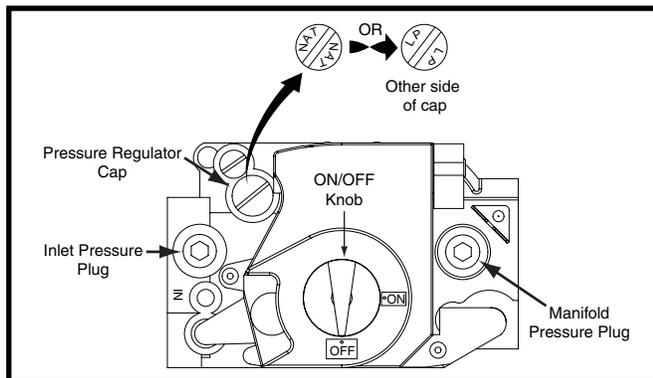

Figure 36. Gas Valve - Top View
This furnace can be converted from factory-equipped natural gas to Liquid Propane gas. Conversion of this valve requires replacement of the burner orifices on the manifold assembly and flipping the regulator cap to the side marked LP. See Figure 36 below. The orifices required for conversion are supplied with the furnace.
- To prevent cross threading, screw the orifices (7) into the gas manifold assembly (5) by hand until snug, then tighten with a wrench.
12. Install the appropriate LP/Propane orifices (7) into the gas manifold assembly (5).
13. Remove the pressure regulator cap (Figure 36) from the gas valve.
16. Install the gas manifold assembly (5) back into the burner assembly (6). Make sure the center of the orifices are aligned with center of the burners.
17. Secure the manifold assembly (5) to the burner assembly (6) with the four screws (4), removed in step 8.
1. Remove the inlet pressure plug (Figure 36 (page 28)) from the INLET side of the gas valve with a 3/16 Allen wrench.
1. Remove the manifold pressure plug (Figure 36 (page 28)) from the outlet side of the gas valve with a 3/16 Allen wrench.
6. If the manifold pressure is not set to the pressure specified in Table 13, remove the pressure regulator cap (Figure 36) from the gas valve. Slowly turn the adjusting screw underneath the cap with a small screwdriver until the appropriate manifold pressure is obtained. **NOTE:** Turning the screw clockwise increases the pressure, turning the screw counter-clockwise decreases the pressure.
7. After the manifold pressure is properly set, replace the cap so that the letters facing up represent the type of gas being used for the furnace. See Figure 36.
4. Turn the gas valve ON/OFF knob (Figure 36) to the ON position.